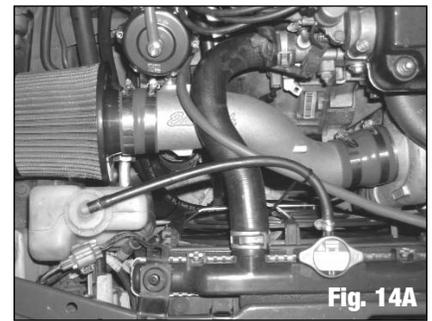

Fig. 14A
9. If applicable, press the supplied nylon plug into the non-threaded hole on the compressor inlet pipe. Install a 3/8" barb x 1/4" NPT fitting into the threaded hole in the pipe. Fit the Compressor Inlet Pipe to the compressor inlet using the supplied silicone coupling and clamps (**See Fig. 14A**). Do not fully tighten. Adjust the compressor Inlet pipe for alignment, and connect the compressor inlet pipe to the brace on the Intake Manifold Inlet Pipe using the M8 x 1.25 (25mm long) bolt (**See Fig. 14B**). Tighten all nuts/bolts and hose clamps. Connect Air Filter Assembly to the compressor inlet pipe using the supplied silicone coupling and hose clamps.